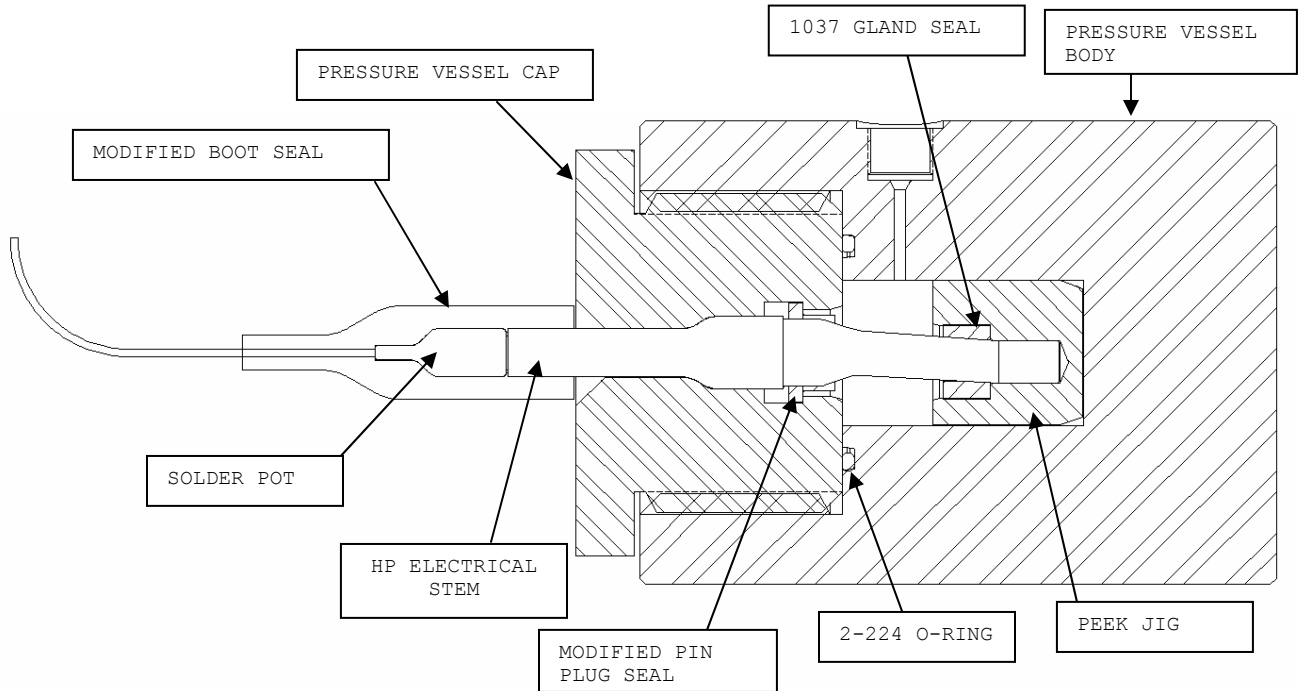

FIGURE 3: FULLY ASSEMBLED PRESSURE VESSEL TEST SET-UP
6.13 REFER TO FIGURE 3 FOR GUIDANCE WHEN ASSEMBLING THE PRESSURE VESSEL.